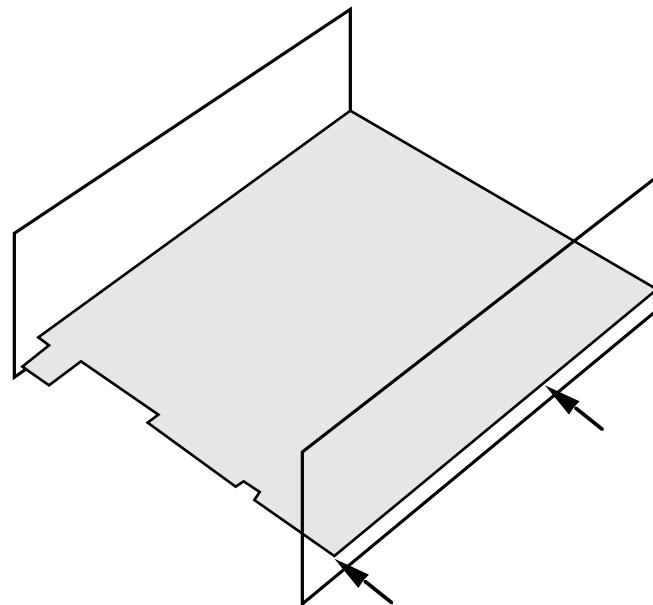

Figure 6-12
- Attach the side panels to the RF board using two 3/16" (4.8 mm) flat-head screws per side panel. The side panels are attached using the 2-D fasteners that are already in place on the RF board. Figure 6-12 shows the approximate location of the two screws used to secure the right side panel.